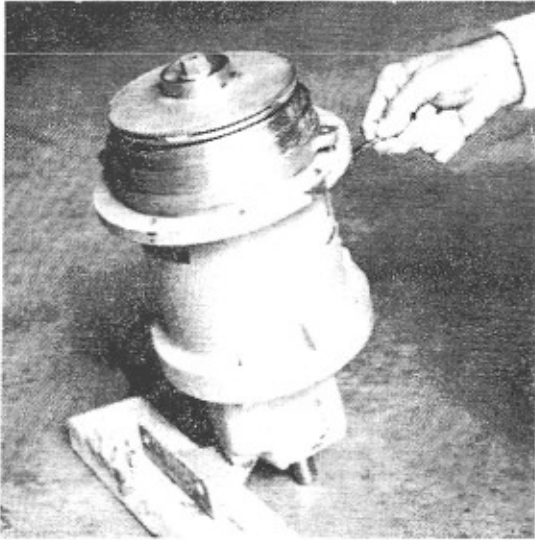
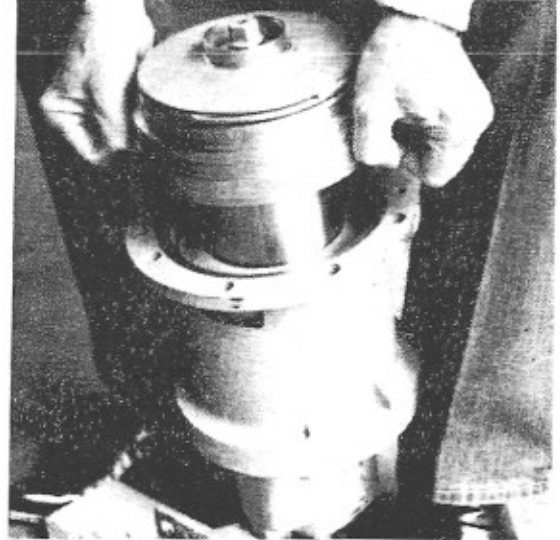

Figure 5
Figure 6
- C. Disconnect the rear casing bolts [Fig. 5] and pull out the rear casing (Part No. 4) with all the internal parts [Fig. 6]. During this procedure remember that strong magnetic forces are working to keep the inner and outer magnets together. A fair amount of force will be required to disconnect larger horsepower pumps. **CAUTION - BE CAREFUL TO AVOID TRAPPING YOUR FINGERS BETWEEN THE REAR CASING AND THE FRAME ADAPTOR (Part No. 15)**